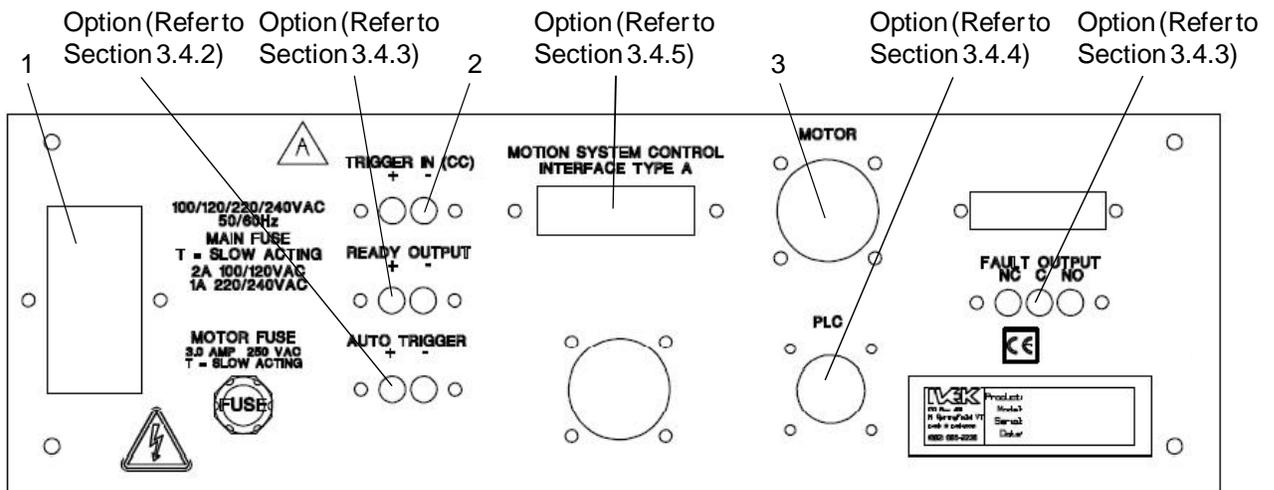

Figure 3.2 Digispense 10 Controller Module Rear Panel
3.1.2 Rear Panel Detail (Figure 3.2)
3.1.2.1 Power Entry Module (Figure 3.2 Item 1)
3.1.2.2 TRIGGER IN Terminal Strip (Figure 3.2 Item 2)
3.1.2.3 Motor Cable Connector (Figure 3.2 Item 3)